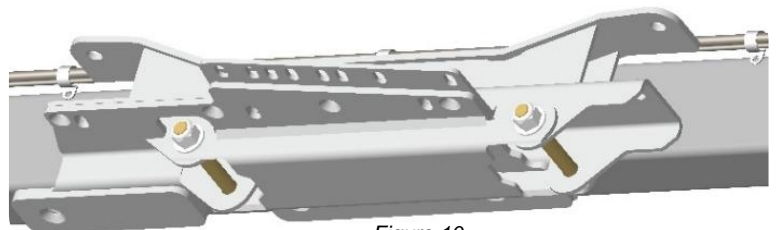

Figure 10
44. Locate the lower control arm mounting bracket, gusset plates, and hardware kit 118 (see figure 10). Align the LCA mounting holes with M14 bolts then secure the control arm gusset plates onto the control arm mounts using four 3/8 x 1 flat head screws and flange nuts per side. There is a left and right for each part, ensure the countersinks match up to the bolts for a flush finished product. Tighten 3/8 bolts then remove M14 bolts from LCA mounts.